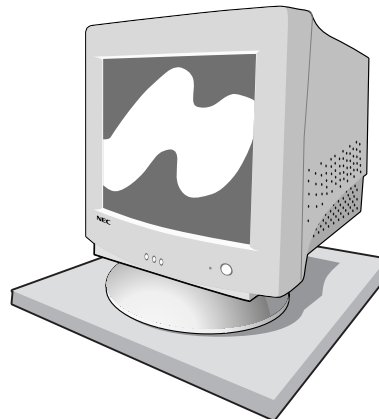

Figure TS-4
4. Having successfully installed your tilt/swivel base, carefully turn the monitor right side up (**Figure TS.4**).